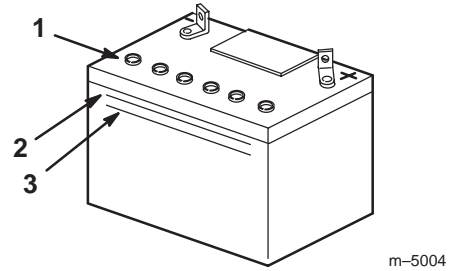

Figure 19
2. Look at the side of the battery. The electrolyte must be up to the Upper line (Fig. 19).
Note: Do not allow the electrolyte to fall below the Lower line (Fig. 19).
3. Remove the vent caps from the battery (Fig. 19).
4. Slowly pour distilled water into each battery cell until the electrolyte level is up to the Upper line (Fig. 19) on the battery case.
- Wait 5 to 10 minutes after filling the battery cells. Add distilled water, if necessary, until the electrolyte level is up to the Upper line (Fig. 19) on the battery case.